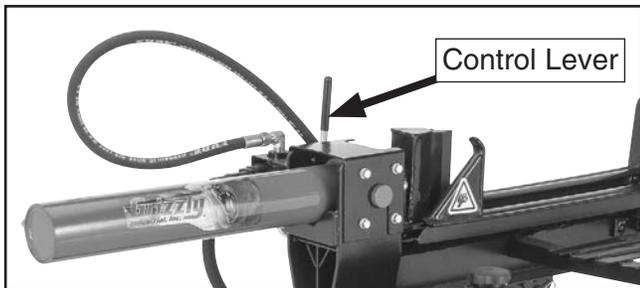

Figure 29. Control lever location.
- After several seconds, move choke lever slowly to OFF (O) position.
- Move control lever (see **Figure 29**) to cycle log splitter ram back and forth periodically during break-in process to bleed hydraulic system and check for fluid leaks. Do not operate at full load until after engine break-in has been completed.